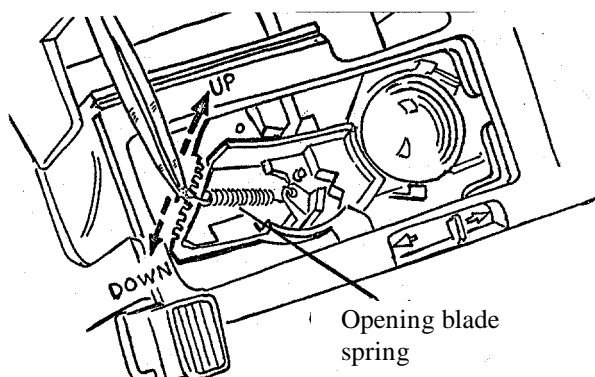

Fig. 4 Adjusting Opening Blade Spring
- c. Move the opening blade spring up in the rack to increase the reading or down in the rack to decrease the reading (Fig. 4).